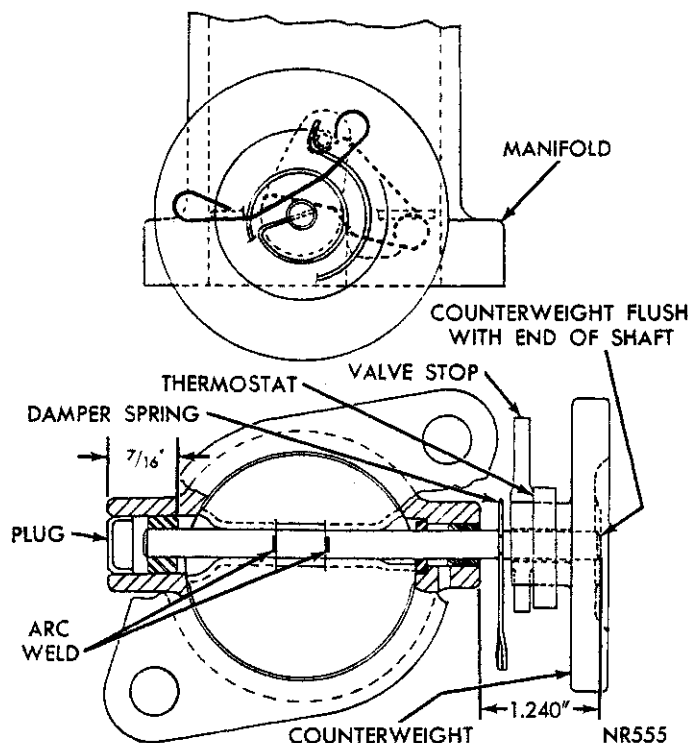

Fig. 14—Proper Manifold Heat Control Valve Installation (340 Cubic Inch Engines)
- (1) Remove exhaust pipe from manifold.
- (2) Remove exhaust manifold from engine.
- (3) Position valve plate, grind off spot welds from valve plate and shaft.
- (4) Remove counterweight and shaft assembly, valve plate. Press out bushings and plug from manifold (Fig. 14).
- (1) Press in new outer bushing flush with outer edge of manifold (Fig. 14).
- (2) Press in new inboard or inner bushing to a